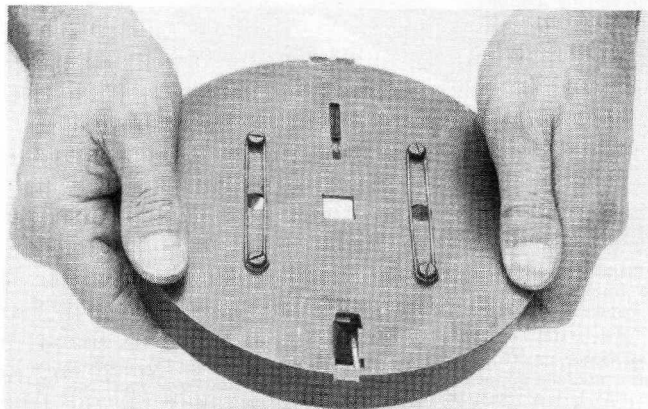

Figure 12
- b. Press the lock on the base and turn the magazine base until you can see the filled chamber through the loading slot of the base (figure 12). The marking arrow visible on the magazine should be positioned below the narrow protrusion of the base.